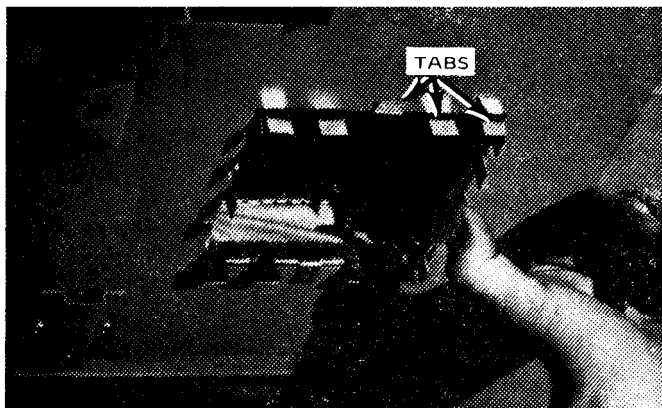

FIGURE 8
- Remove shipping tape and pull flexible duct down. Connect duct to ceiling template by bending over the tabs as shown. Figure 8.